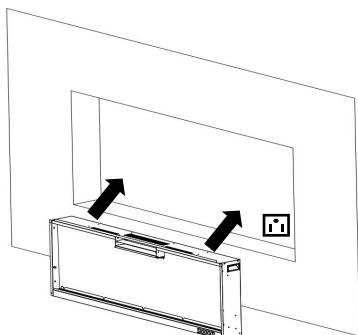
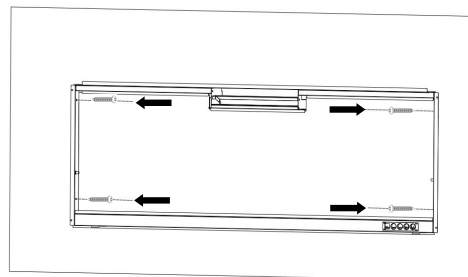

Fig. 2-3
Fig. 2-4
- D.** Have two adult people to lift up the fireplace and insert it into the rough-in frame and then secure it by installing 4 wood screws (B) through the holes (Fig. 2-3, Fig 2-4).